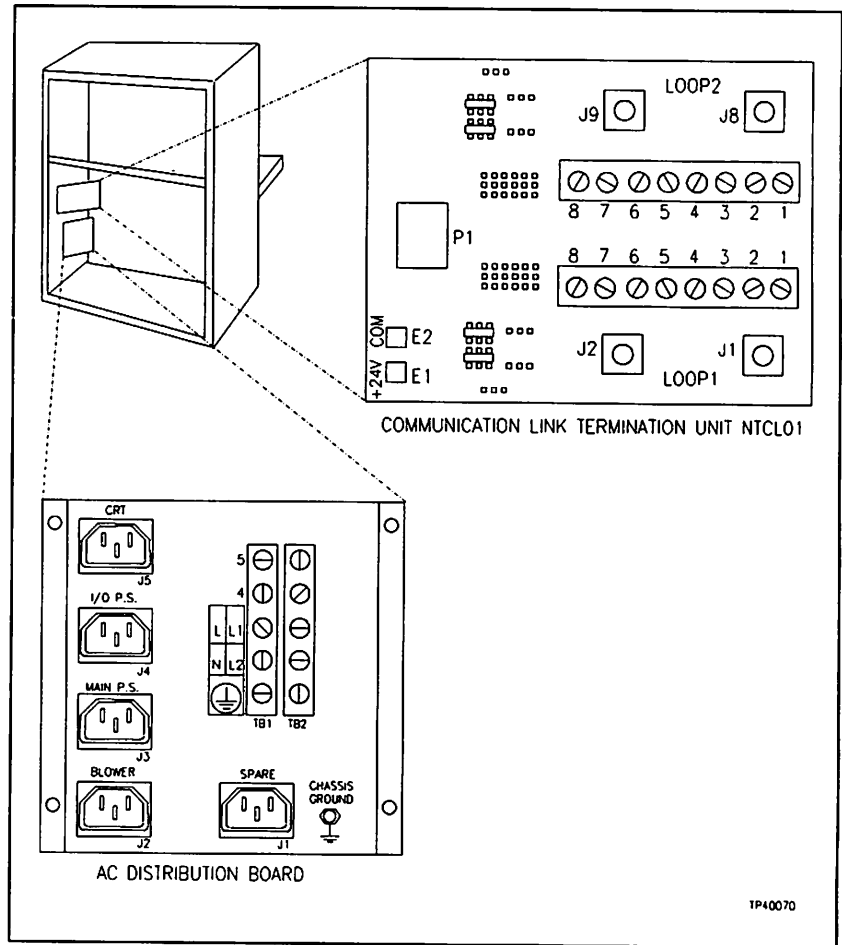

Figure 2-1. NTCL01 and AC Distribution Board Location
**NMCS02** Located at the rear of the NMCS02 to the lower left is a rack which accommodates a Communication Link Termination Unit (NTCL01) (Figure 2-1). Refer to the NTCL01 in the Bailey termination manual I-E93-911 for wire connections.
**NMCS02** Located just below the Communication Link Termination Unit, the AC distribution board (Figure 2-1) accepts 120 VAC at 50/60 Hz. Connect one side of the 120 VAC line to TB2-L, and the other side to TB2-N. Connect the ground wire to TB2-G. (Refer to **AC DISTRIBUTION BOARD** in section three of this manual for further information.) If other